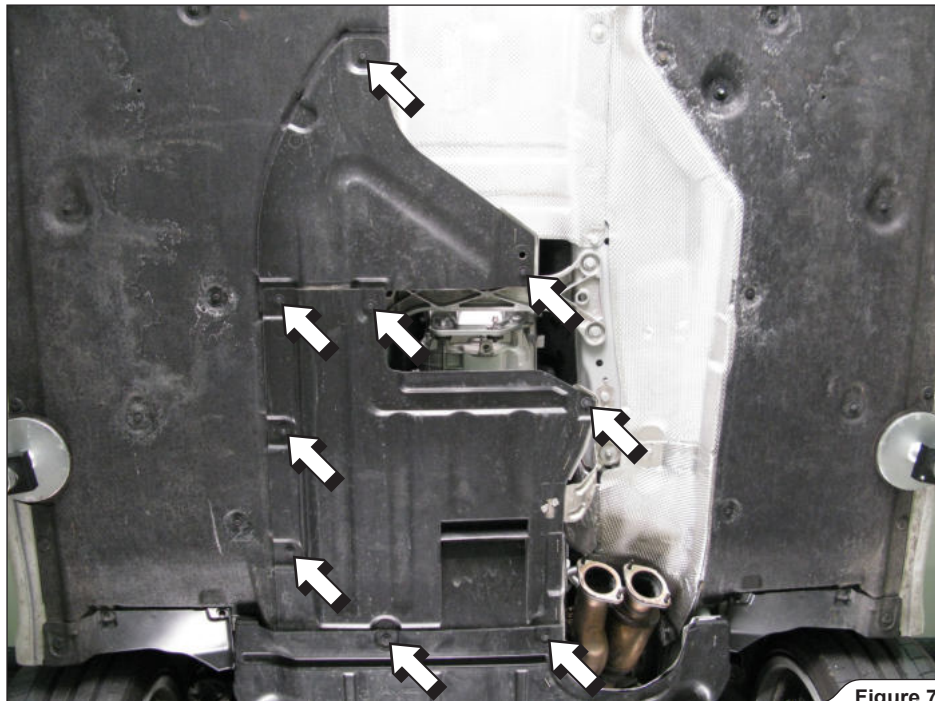

Figure 7
7. **For optional Down Pipes:** unscrew the marked bolts and remove the engine/transmission shields off the vehicle (**Figure 7, 8**).